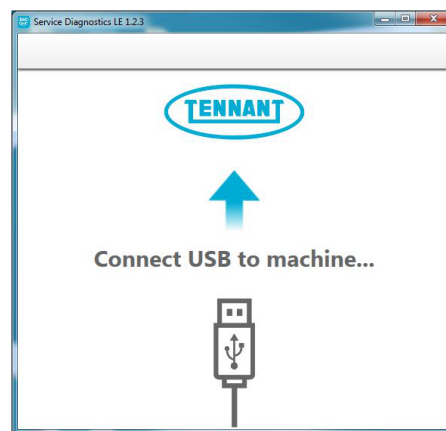

Fig. 16
- After start up, the following screen will appear (Figure 16).